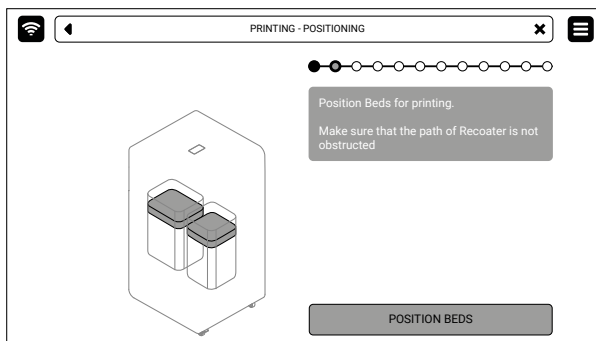

Fig. 6.5 **POSITION BEDS** screen.
4. Press **POSITION BEDS** to begin the positioning process of the Beds (fig. 6.5).